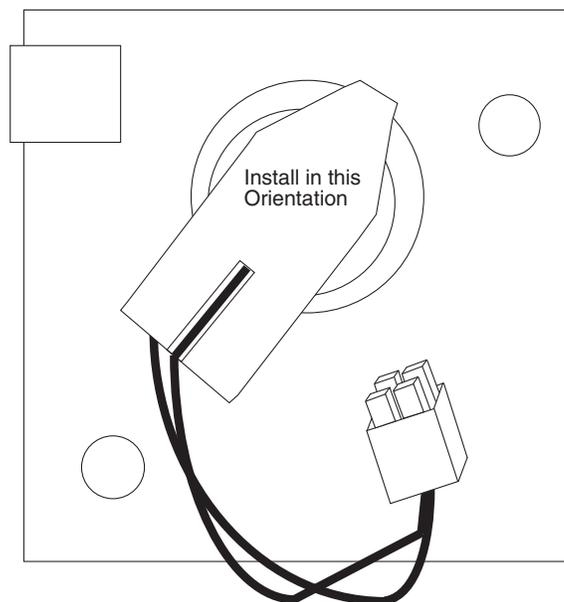

Fig. 65 — Compressor Motor Sensor Harness Installation
1. A new S1-S2 thermistor wiring harness is shipped with the CoreSense kit and must be used. The wiring harness connector block should be fully inserted on the three pins in the orientation shown in Fig. 65 for proper operation.